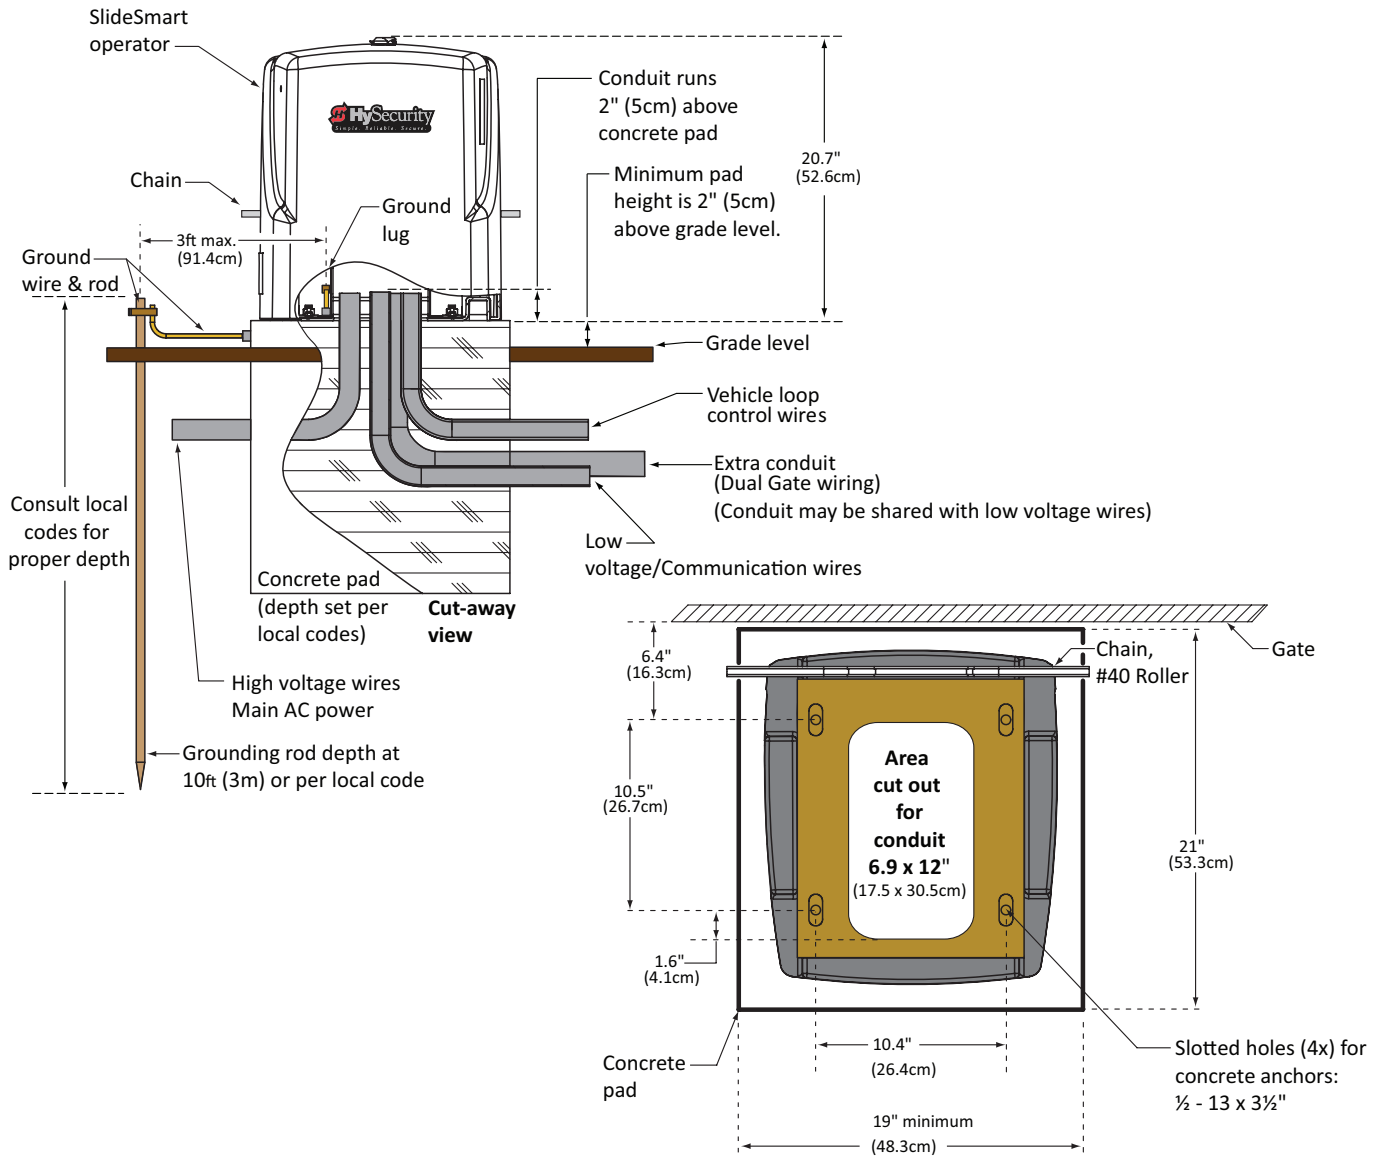
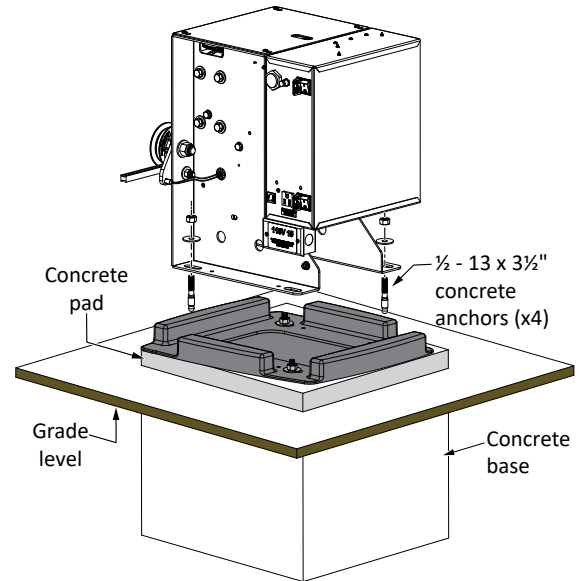

Figure 3. Conduit View
Figure 10. Concrete Anchors
- Appropriate distance from the gate. See Figure 3.
- Appropriate dimensions (See Figure 3) for SlideSmart installation.
2. Assess any limitations in the chain path such as gate support posts. Adjust the operator's location as required. Mark the mounting locations based on gate, operator, and chain requirements. Mark the drill point at the center of the slot to allow for adjustments. See Figure 3 and Figure 10.